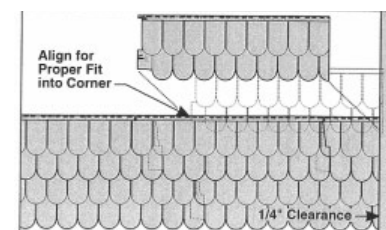

Fig.15
- c. Half-Rounds – Align Left Side Flange with nearest Alignment Line of course below that allows for proper fit into corner post or J-channel (see Figure 15).